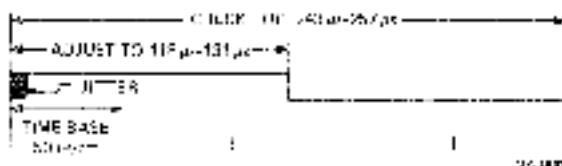

Figure 5-4 Capstan Speed Adjustment.
2. Measure the period of the signal to be 250 μ s $\pm$ 3 percent. Jitter, measured from the same edge from which the scope is triggered, should be less than 2 percent (Figure 5-4).